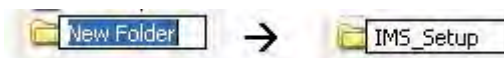

Figure 1-73. Explorer Window – Create New Folder
2. In the right part of the explorer window a 'New Folder' will be created. Enter **IMS_Setup** and press **Enter** (Figure 1-73).